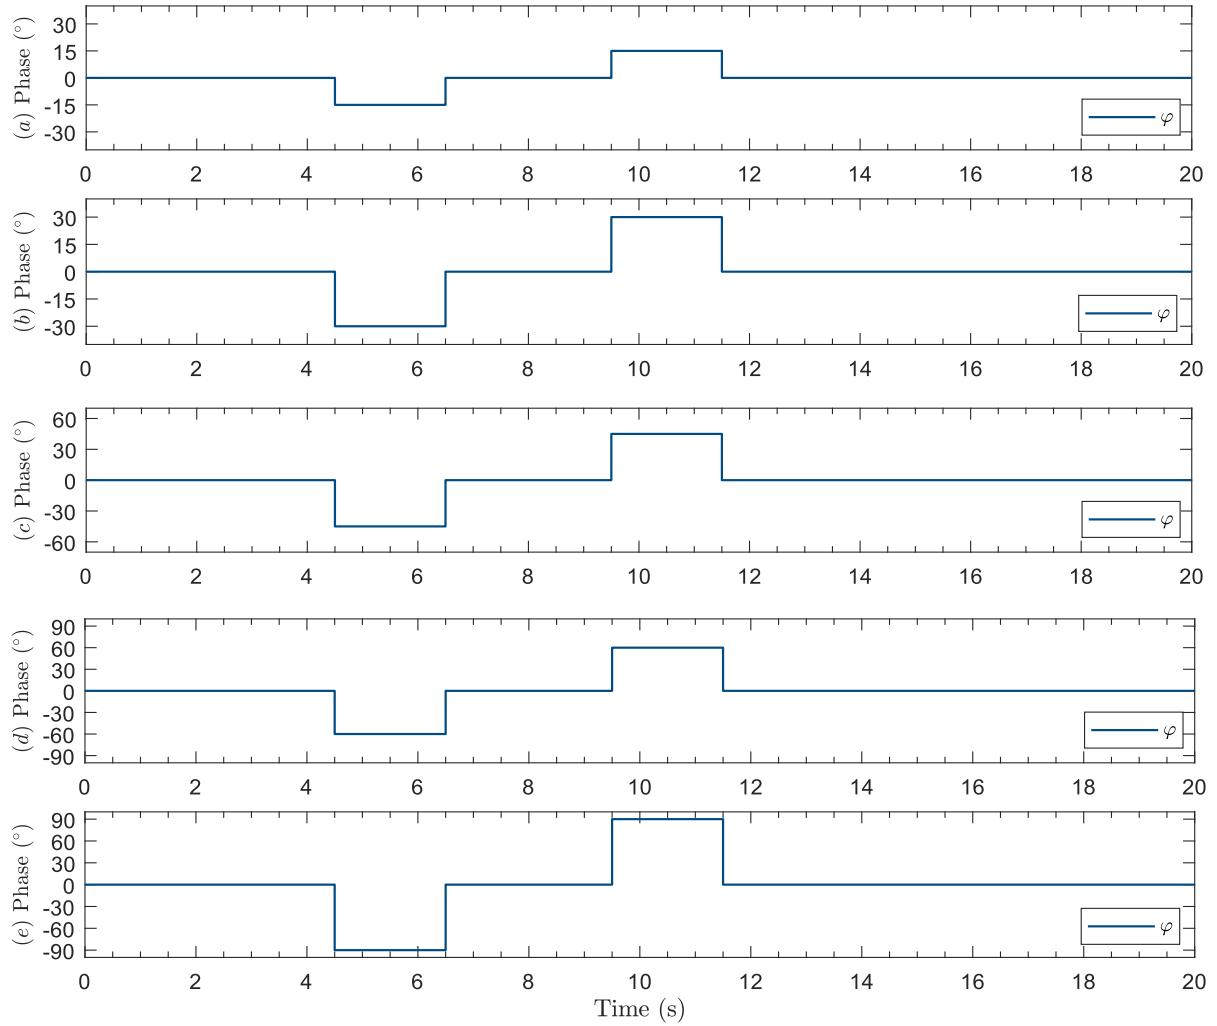

Fig. 16: Voltage phase-angle jumps of different magnitudes
- (a) **Test 20:** Phase-jump on grid voltage of -15° and $+15^\circ$. -See Fig. 16(a).
- (b) **Test 21:** Phase-jump on grid voltage of -30° and $+30^\circ$. -See Fig. 16(b).
- (c) **Test 22:** Phase-jump on grid voltage of -45° and $+45^\circ$. -See Fig. 16(c).
- (d) **Test 23:** Phase-jump on grid voltage of -60° and $+60^\circ$. -See Fig. 16(d).
- (e) **Test 24:** Phase-jump on grid voltage of -90° and $+90^\circ$. -See Fig. 16(e).